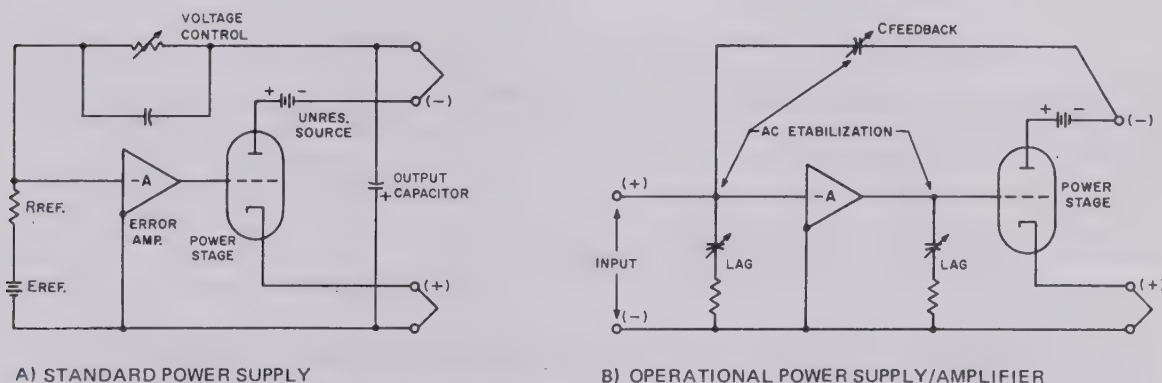
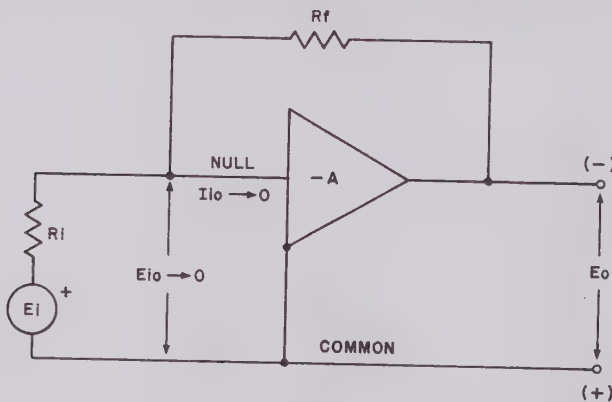

FIG. 4-1 COMPARISON: STANDARD POWER SUPPLY WITH AN OPERATIONAL POWER SUPPLY.
FIG. 4-2 MODEL OF IDEAL OPERATIONAL AMPLIFIER WITH FEEDBACK (INVERTING CONFIGURATION).
- 4-8 D-C OFFSET VARIATIONS. Most Kepco power supplies, "standard" or "operational," consist of a comparison amplifier, a reference source and a power amplifier section. (Refer to FIG. 4-1.) The effects of various external influences, such as time, temperature, load or a-c source variations upon the d-c output of *any* power supply are due to small variations at the input of the comparison amplifier. These small errors or "offset variations" are transferred to the output, amplified by a factor which depends on the gain (ratio of reference voltage to output voltage) and the value of the feedback resistor (voltage control resistor) at any given output level. Since a "standard" power supply has only a limited range of gain and feedback resistance,
4-9 As seen from FIG. 4-1, an operational power supply can be represented as an amplifier, driving a power stage in series with the raw d-c source. It can, therefore, be analyzed using operational amplifier terminology. The circuit shown in FIG. 4-2 is further simplified by including the power stage and the raw d-c source into the amplifier triangle. Adding an input source (E_i) with a series resistor (R_i) and a feedback resistor (R_f), a model of an "ideal" operational amplifier (inverting configuration) results, for which the following assumptions are made:
4-10 Refer to FIG. 4-2. If the input error voltage and current (E_{iO} , I_{iO}) are assumed to be zero, and the gain infinite, we can write: